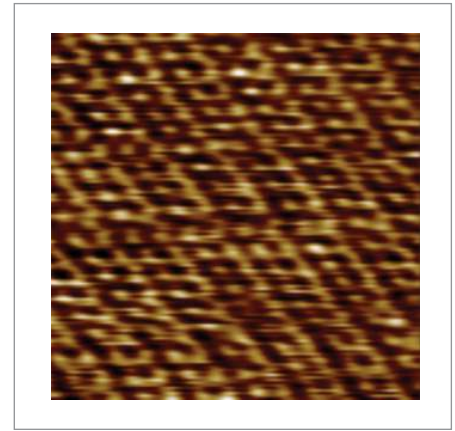

Figure 2. Closed-loop contact mode AFM topography image of barite in Millipore water. Scan size: 11 nm x 11 nm.
Barite is a member of a large class of isomorphous crystals, consists of mainly barium sulfate, and has an orthorhombic crystal structure. On the (001) surface of barite, each unit cell consists of two $BaSO_4$ layers. Within each layer there are two different Ba^{2+} sites, which are arranged at different levels causing a corrugation of about 1.3Å on the surface. Corrugations with different heights are arranged in rows. The lateral distance between the large corrugations is about 8.9Å. A topography image of barite surface in water is shown in Fig. 2.